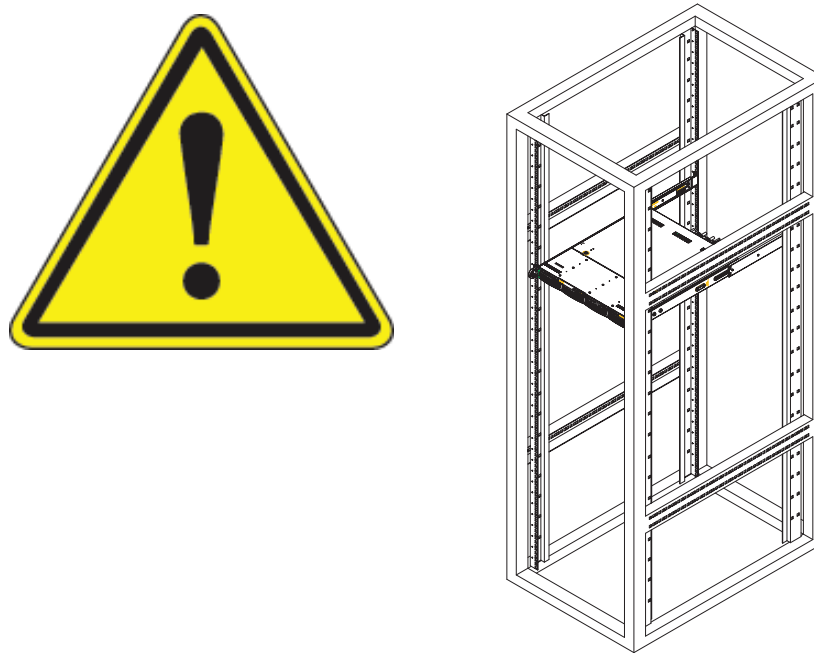

Figure 2-1. Installing the Server into a Rack
2. Slide the chassis rails into the rack rails, keeping the pressure even on both sides (you may have to press the locking tabs when inserting). See Figure 2-1.